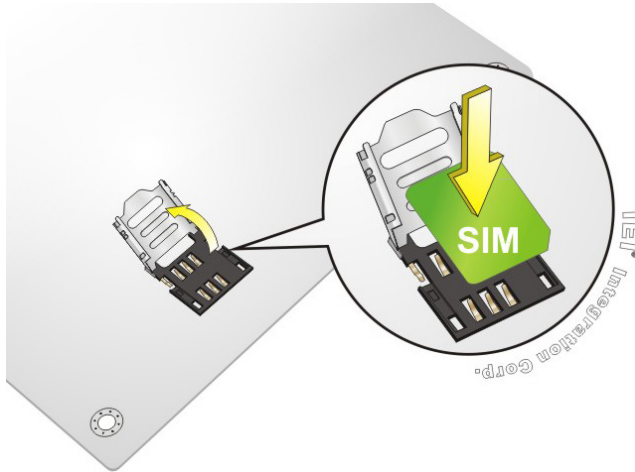

Figure 4-8: SIM Card Installation
Step 3: Open the slot cover and place a SIM card onto the slot. The cut mark on the corner should be facing away from the slot as shown in **Figure 4-8**.